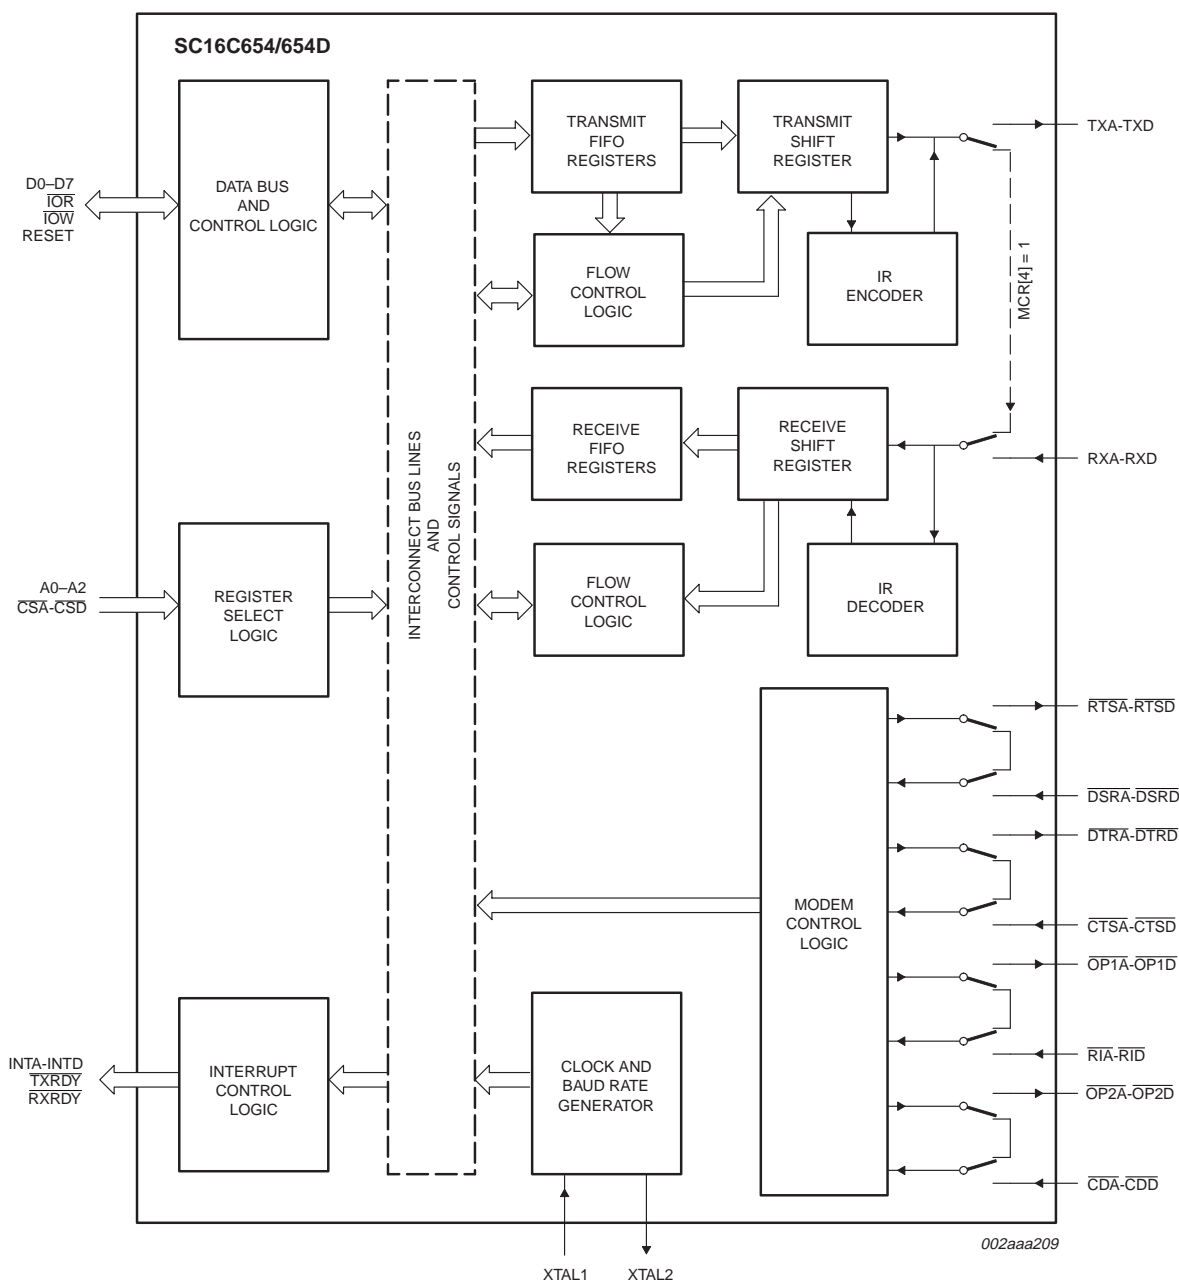

Fig 8. Internal loop-back mode diagram.
The internal loop-back capability allows on-board diagnostics. In the loop-back mode, the normal modem interface pins are disconnected and reconfigured for loop-back internally. MCR[0-3] register bits are used for controlling loop-back diagnostic testing. In the loop-back mode, OP1 and OP2 in the MCR register (bits 2-3) control the modem $\overline{\text{RI}}$ and $\overline{\text{CD}}$ inputs, respectively. MCR signals $\overline{\text{DTR}}$ and $\overline{\text{RTS}}$ (bits 0-1) are used to control the modem $\overline{\text{CTS}}$ and $\overline{\text{DSR}}$ inputs, respectively. The transmitter output (TX) and the receiver input (RX) are disconnected from their associated interface pins, and instead are connected together internally (see Figure 8). The $\overline{\text{CTS}}$, $\overline{\text{DSR}}$, $\overline{\text{CD}}$, and $\overline{\text{RI}}$ are disconnected from their normal modem control input pins, and instead